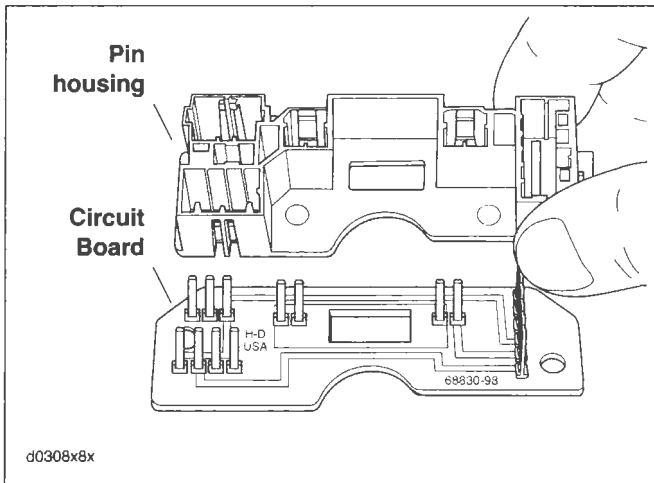

Figure 8-39. Pin Housing and Circuit Board
4. See Figure 8-39. Remove screw, pin housing and circuit board from base.